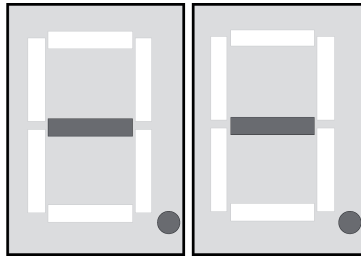

Figure 9: Display „- -“ – deletion of a radio transmitter
- Press **Enter** button (9) for approx. 3 seconds.
The display (13) shows „-“ (Figure 9). The radio transmitter is deleted from the memory for this radio channel.